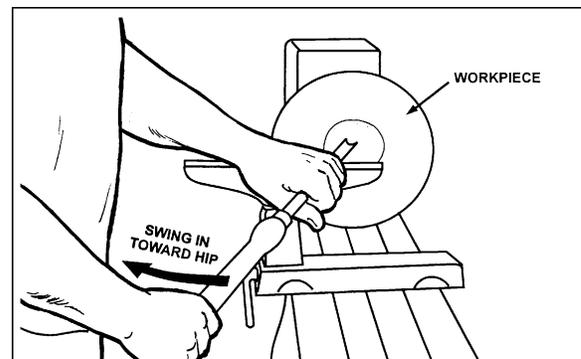

Figure 45
5. Place 1/2" bowl gouge on tool support at center of the workpiece with the flute facing top of bowl. The tool handle should be level and pointed toward the four o'clock position, as shown in Figure 45.
6. Use the left hand to control cutting edge of gouge, while right hand swings tool handle toward your body (Figure 45). The flute should start out facing top of workpiece and rotate upward as it moves deeper into the bowl to maintain a clean even curve. As the tool goes deeper into the bowl, progressively work out toward the rim. It may be necessary to turn the tool support into the piece as you get deeper into the bowl.